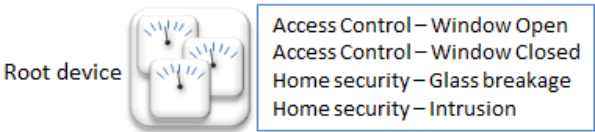
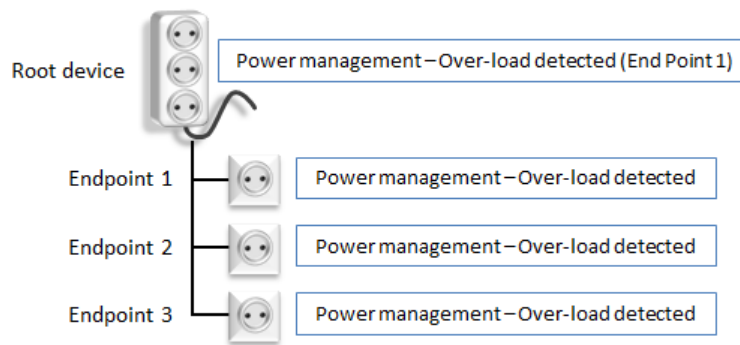

Figure 20, Multi Channel device aggregating Notifications (Lifeline group)
Figure 21, Multi Channel device with End Point notification overlap (Lifeline group)
- While End Points MAY send identical notifications via the Root Device Lifeline Group, the Root Device MUST NOT send identical Notifications on behalf of multiple End Points. Illustrations are given in Figure 20 and Figure 21.